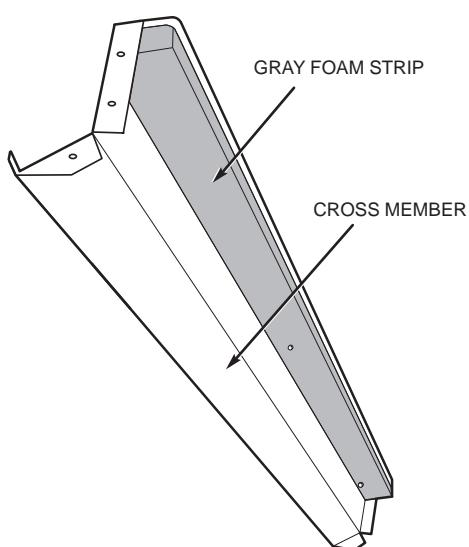

Fig. 20 — Adding Foam Strip to Cross Member
- f. Add gray foam strip (provided) to cross members at bottom tray. See Fig. 20.